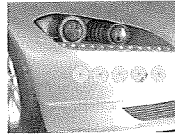

Figure 1
- 2) Stick the positioning stickers to the bumper according to your favorite light pattern (Figure 1 is an example). To make sure it looks good.